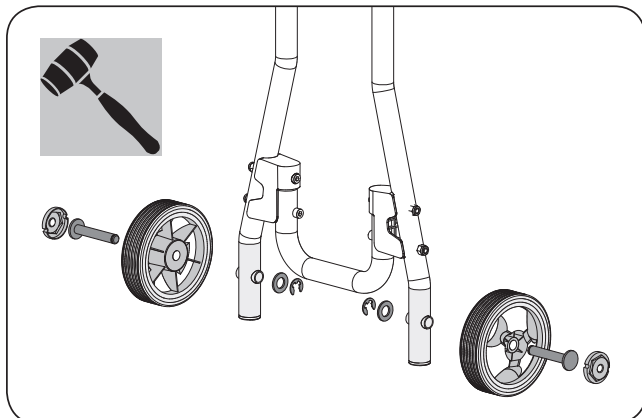

Figure 2
2. Insert the axles through the wheels and attach the wheel covers. Insert the wheels and axles into the holes at the base of the rear leg assembly. Use pliers to attach the C-clip over the end of the axle. (See **Figure 2**)